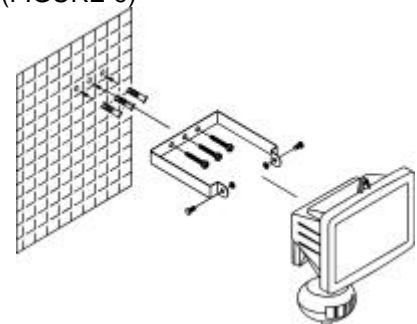

FIGURE 9
- (1) Switch off the power source or wall switch.
- (2) Remove the mounting bracket from the floodlight. Drill the wall and screw the bracket onto the wall using suitable plastic wall plugs and screws. Check that the bracket is securely fitted on the wall. (FIGURE 9)